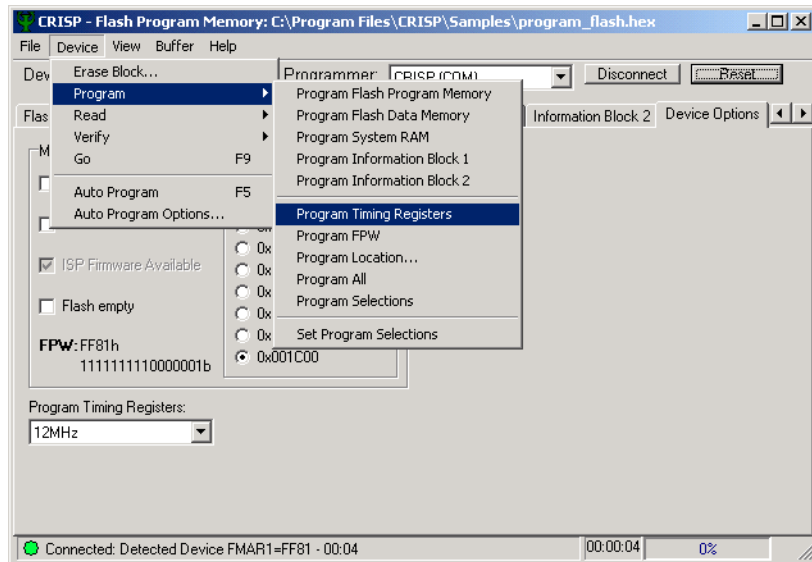

Figure 5-7. Programming the Flash Timing Registers
2. **Program Flash Timing Registers.** Write the flash timing registers in the CP3UB17/CP3CN17 device by selecting the Device -> Program -> Program Timing Registers command, as shown in Figure 5-7.